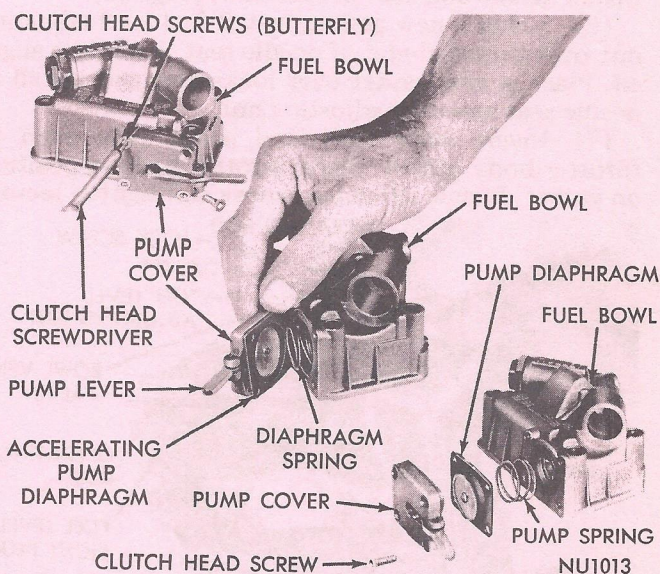

Fig. 14—Removing or Installing Accelerating Pump Assembly
- (1) Place a new gasket over fuel inlet fitting, then install fitting in fuel bowl. Tighten securely.
- (2) Install accelerator pump spring in position in fuel bowl, followed by diaphragm and pump cover. (When installing diaphragm, be sure contact button rivet head is toward pump lever in cover (Fig. 14). Install clutch head screws and tighten securely, using Tool CL-13.
- (3) Install sight plug and new gasket in bowl.